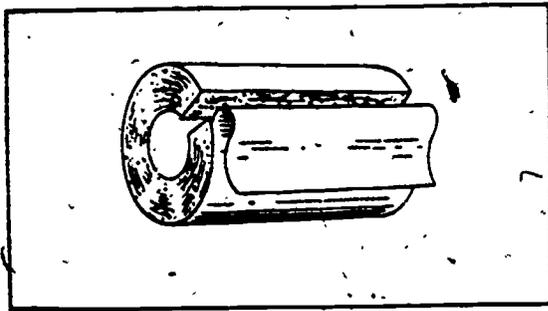

Figure 4-4. Woolfelt pipe covering.
d. **Woolfelt.** Woolfelt is made of matted fibers of wool, wool and fur, or hair worked into a compact material by pressure rolling. It is used on cold water service and hot water return lines. Woolfelt preformed pipe covering is manufactured in thicknesses of 1/2 to 1 inch, with a canvas jacket, as shown in figure 4-4. It is manufactured in 3-foot lengths to accommodate straight-runs of pipe.